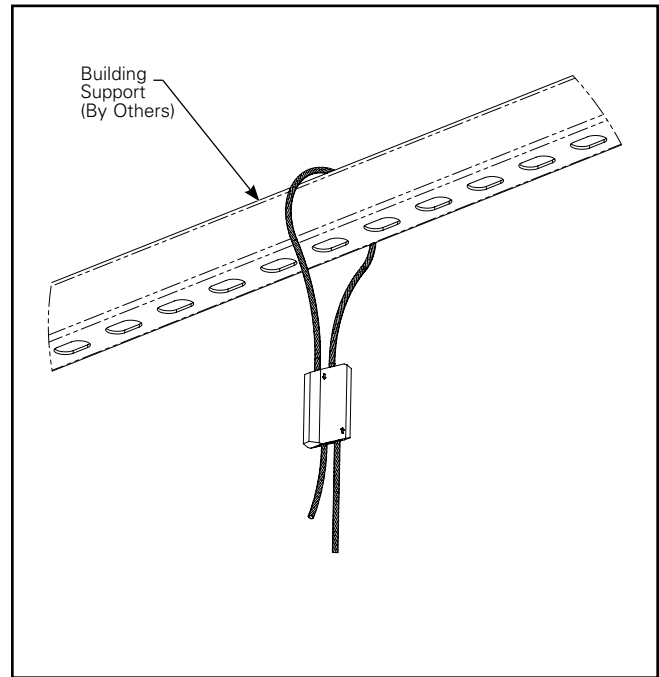

Figure 3.
3. Locate suitable support structure and secure gripple clamp as shown in Figure 3.